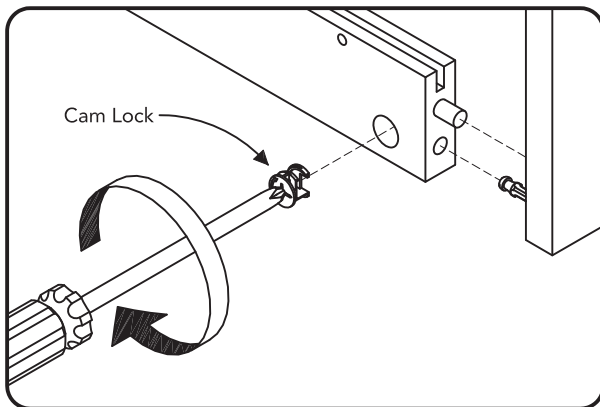

Figure 1
Attach Back Rails (F) to Side Panel (C) with Cam Locks. (See Figure 1)